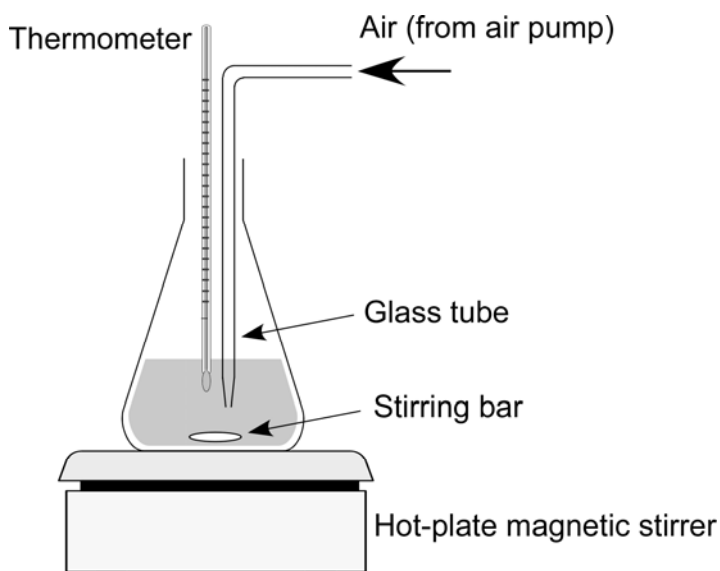

Fig. 37.1 Experimental setup.
- (1) Assemble the experimental setup as shown in Fig. 37.1.
- (2) Dissolve $FeSO_4 \cdot 7H_2O$ (2.0 g) in water (40 mL) in the Erlenmeyer flask.
- (3) Start stirring the solution.
- (4) Dissolve $ZnSO_4 \cdot 7H_2O$ (0.20 g) in the solution.